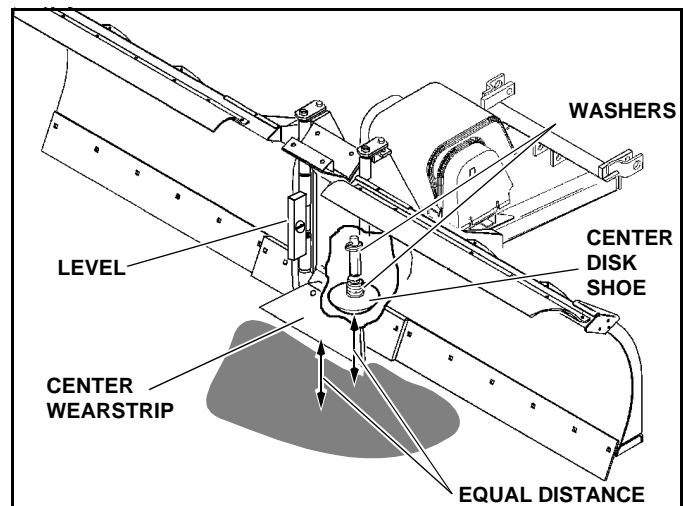

Figure 2-1
**IMPORTANT:** This Plow is equipped with three (3) Disk Shoes. Two Disk Shoes are located at the outboard end of each Wing. The third Disk Shoe is located under the Trip Springs on the Center Plow Assembly. All three Disk Shoes must be adjusted equally.
5. Determine whether the Center Disk Shoe or the Center Wearstrip is off the ground and measure the amount that it is off the ground. (See Figure 2-1)